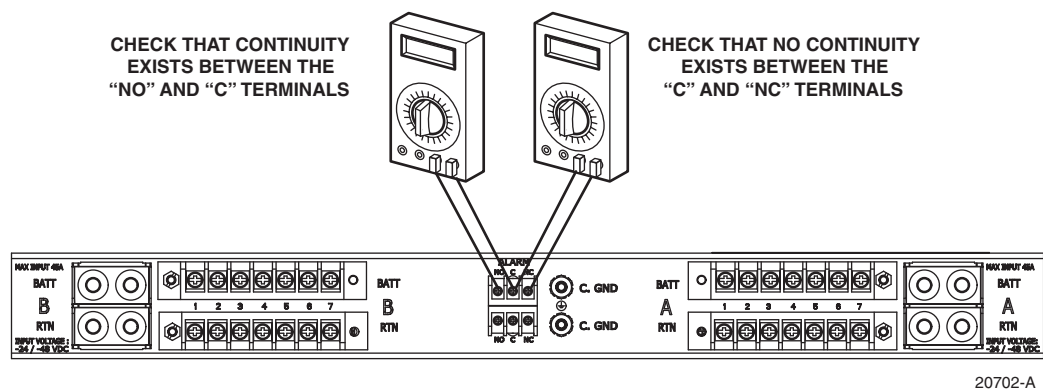

Figure 10. Test 4: Alarm Contacts
- Note:** This procedure tests the alarm indicator contacts as they should be with no power being supplied to the panel. In this state, the normally open (NO) contacts should be closed and the Normally Closed (NC) contacts should be open.
- Starting at the top set of alarm terminals on the right rear side of the panel, verify that no continuity exists between the C and NC terminals (Figure 10).